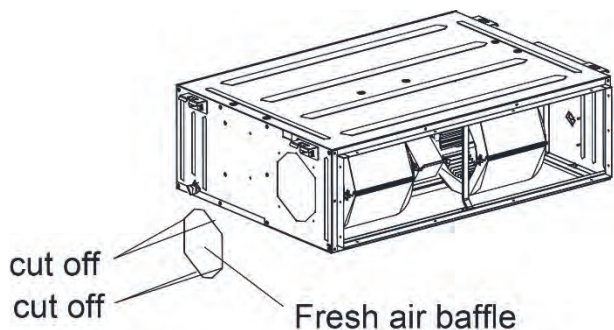

Fig 23
- (1) When the fresh air pipe is needed to be connected, cut the fresh air baffle as Fig 23. Plug up the gap of the fresh air baffle by sponge if the fresh air duct is not be used.